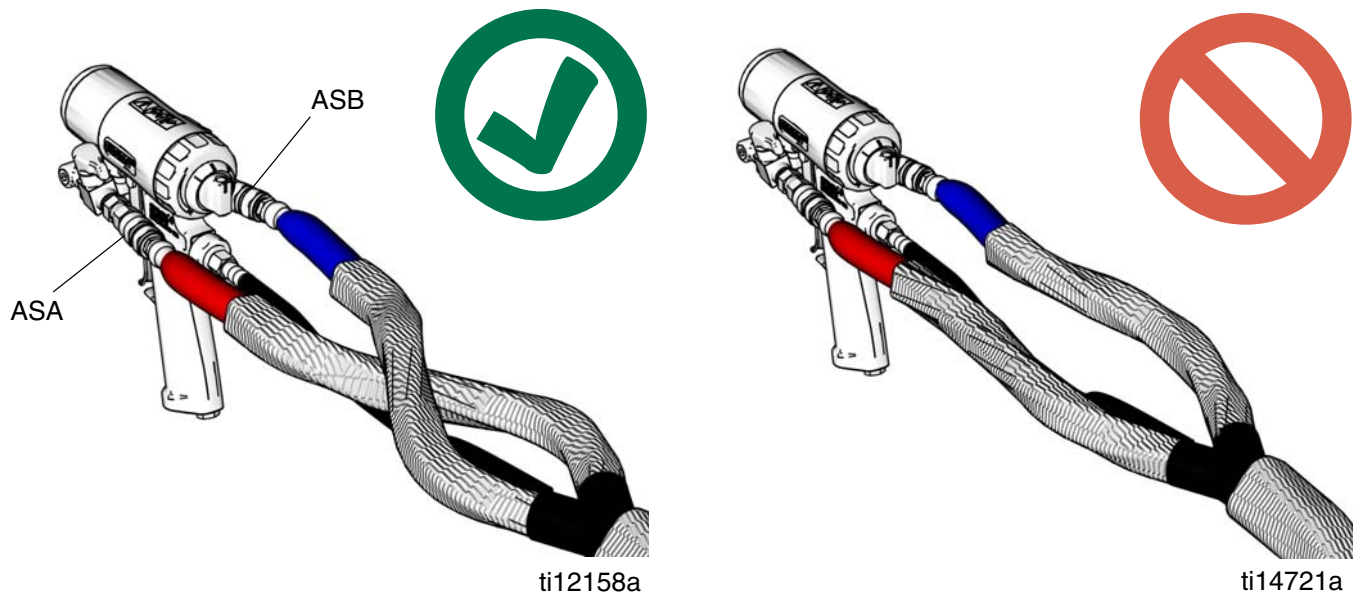

FIG. 8: Overlap of A-side and B-side Component Hoses
2. Overlap A-side and B-side component hoses and assemble to gun or gun manifold fittings as shown in FIG. 8.